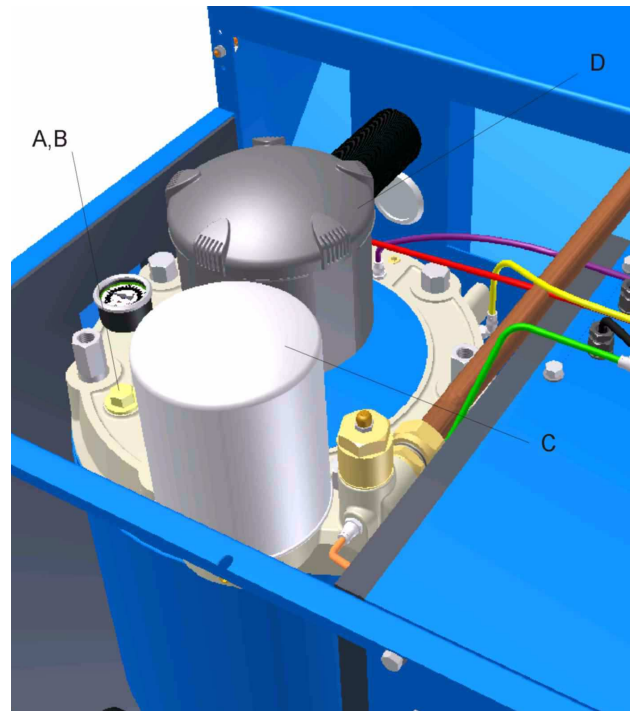
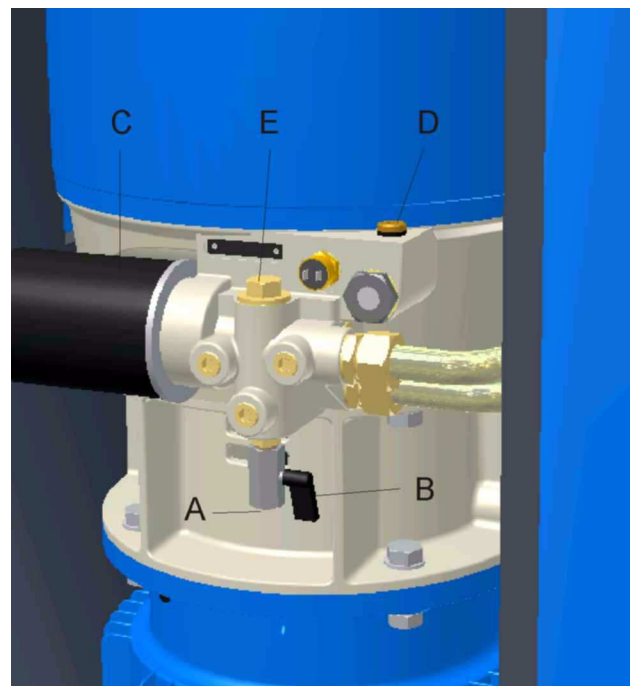

Fig. 9.2 - Oil Filler Plug, Air Filter and Separator Element Location
Fig. 9.3 - Oil Drain and Filter Location
9.7 Oil Draining and Filter Replacement (Fig. 9.2 and Fig. 9.3)
Remove filler plug (A) (Fig. 9.2) with bonded seal (B) to allow air to enter the compressor to aid drainage.
Place a suitable container below the oil drain point, remove drain plug (A) from the end of the tap (B) (Fig. 9.3), turn the tap and allow oil to drain.
9.9 Oil Filter Replacement (Fig. 9.3)
9.10 Oil filling / Top-up (Fig. 9.3)
Refit filler plug (A) Fig. 9.2 and bonded seal (B), renew if damaged, tighten the plug using a suitable spanner. Do not over tighten.
9.11 Air Filter Replacement (Fig. 9.2)
9.12 Oil Separator Replacement (Fig. 9.2)